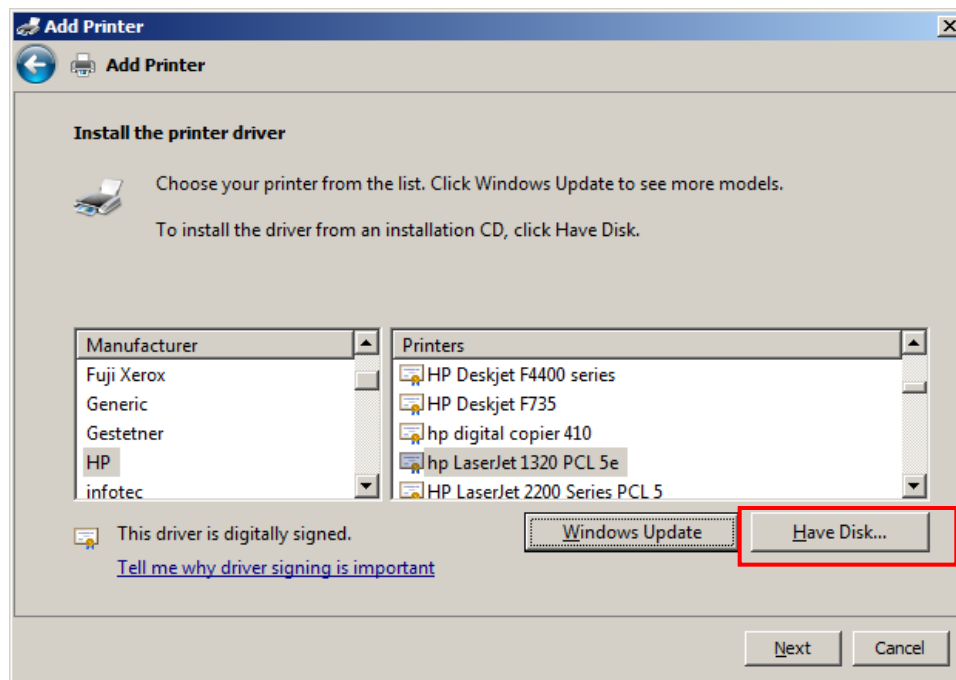

Figure 10.19 – Select Have Disk
- 8) On the Add Printer dialogue box shown below (Figure 10.19) select the “**Have Disk**” option and point it to where you saved the printer drivers on your USB drive.
- 16) If windows was unable to automatically select the proper driver to use you will be presented with the same screen as shown in Figure 10.19 and you will need to click **“Have Disk”** and specify a location where you have the printer driver saved.